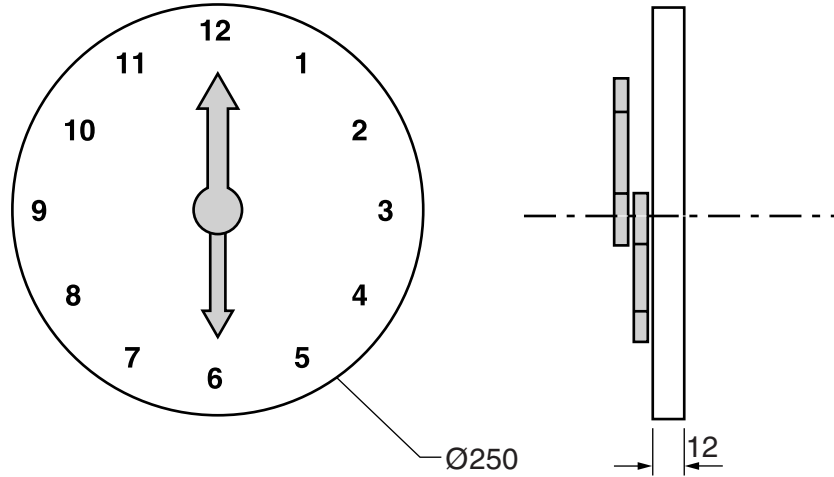

Fig. 7
- 11 Fig. 7 shows views of a clock used to teach children how to tell the time. The clock face is made from plywood and the clock hands are made from acrylic. The clock hands will be moved by the teacher.